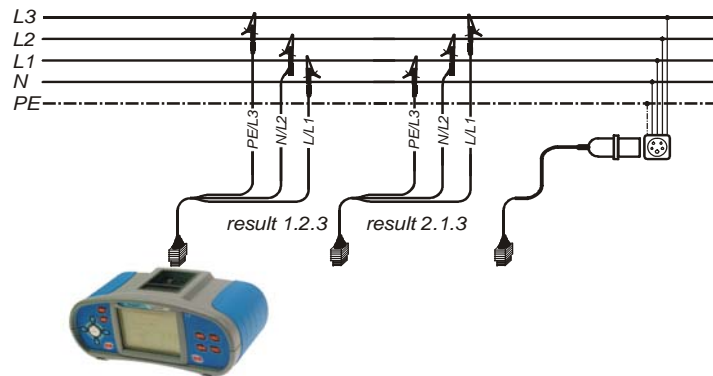

Figure 5.28: Connection of universal test cable and optional adapter in three-phase system
- ❑ **Connect** test leads to the tested object (see figures 5.28 and 5.29).